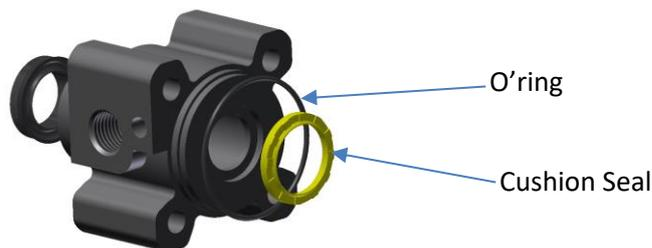

Figure 19
- Fit the Cushion Seal taking care to orientate correctly. See Figure 19.